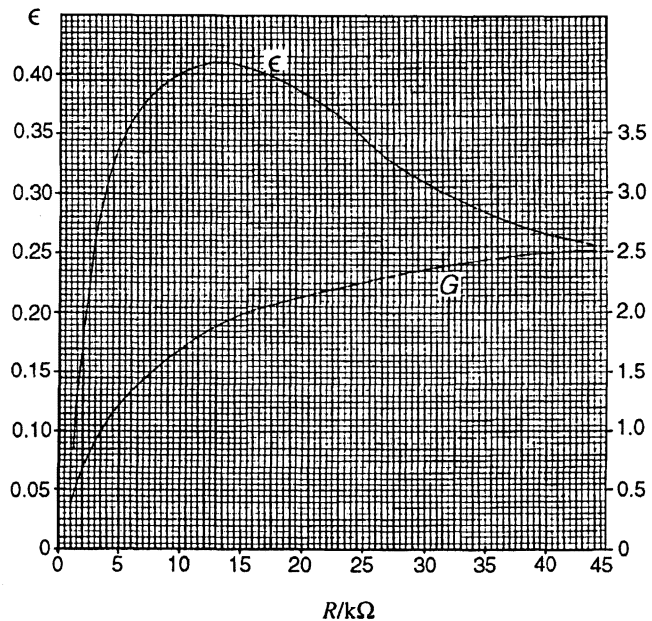

Fig. 5
Fig. 5 illustrates the variation of ϵ , and G , with R , the resistance of the external load.
- (a) Read off from Fig. 5 a value for the maximum efficiency of the transformer. [1]